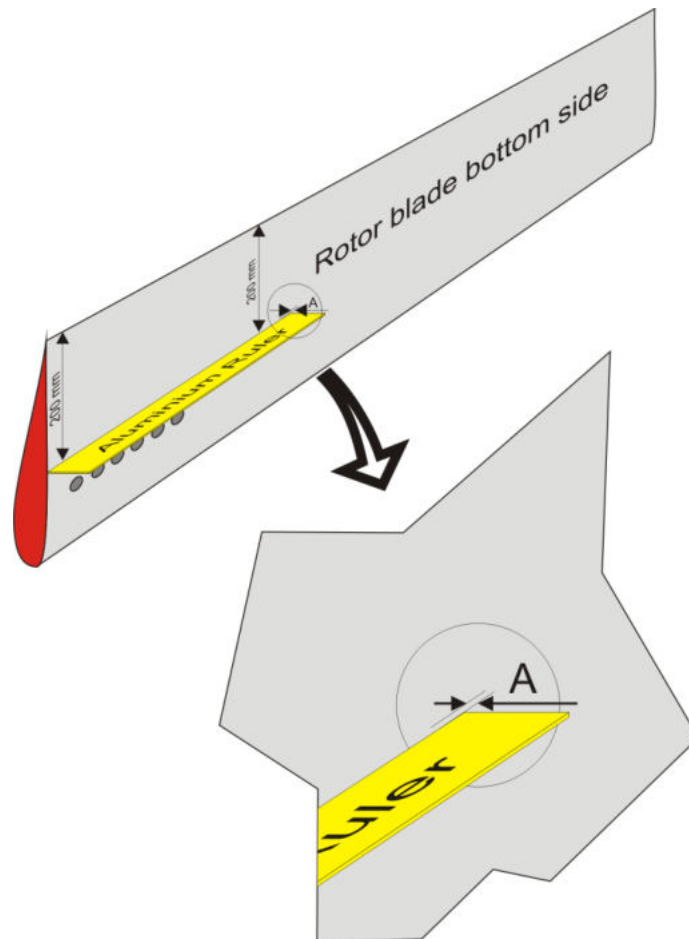

Fig. 2 - Measurement of blade root linearity
- 2 Check each rotor blade in its root section for linearity. In order to do place each rotor blade with the nose section facing down on the support stands and measure gap with an aluminium ruler in 1 meter distance from the inner end (see Fig. 2). Maximum allowed gap (dimension A) is 0.5 mm (LTA DULV-2010-004).